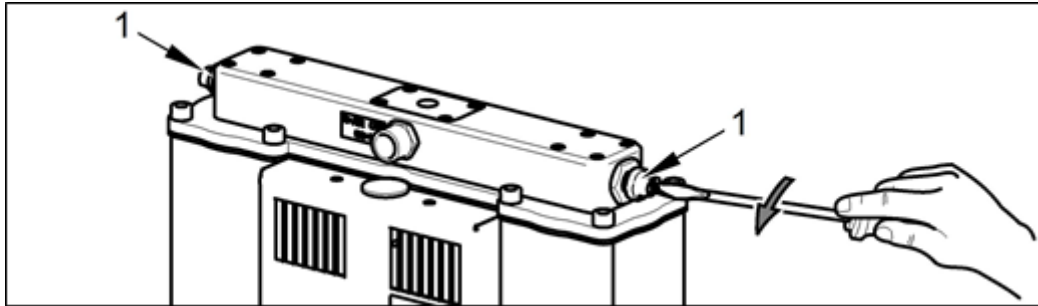

Fig. 25: Venting pressure from the dryer chambers
- Open the vent plugs on the outlet module on the equipment (Fig. 25).
- Vent pressure from the dryer chambers. (Fig. 25).